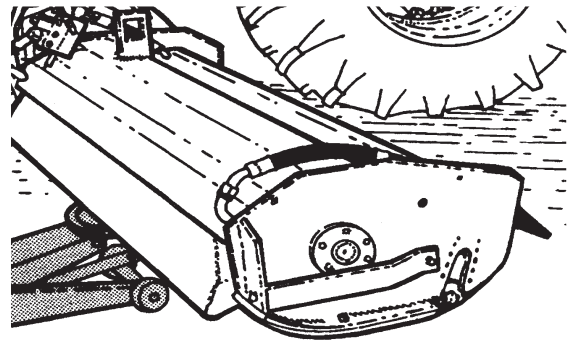

FIGURE 14
7. Rear Mower Completely Connected. With the rear mower completely connected. Check all Oil levels and grease mower components (See Figure 14) before running mower. Also DO NOT start
(See Figure 14, 15, 16 & 17)
4. Remove fasteners securing bearing and housing assembly to cutter housing, then remove bearing and housing assembly (See Figure 14). NOTE: There are two tapped holes in the housing which can be used to pull bearing and housing assembly out by using special tool No. 701627.